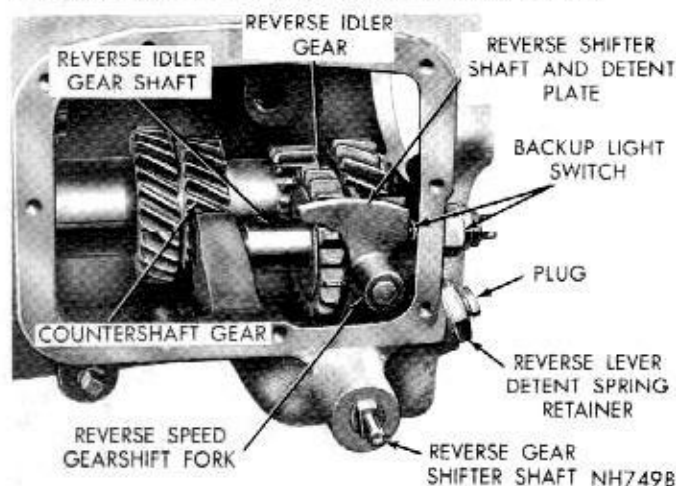

Fig. 27—Gear, Shaft and Lever Identification
(1) Remove reverse gearshift lever detent spring retainer, gasket, plug and detent ball spring from rear of the case (Fig. 27).